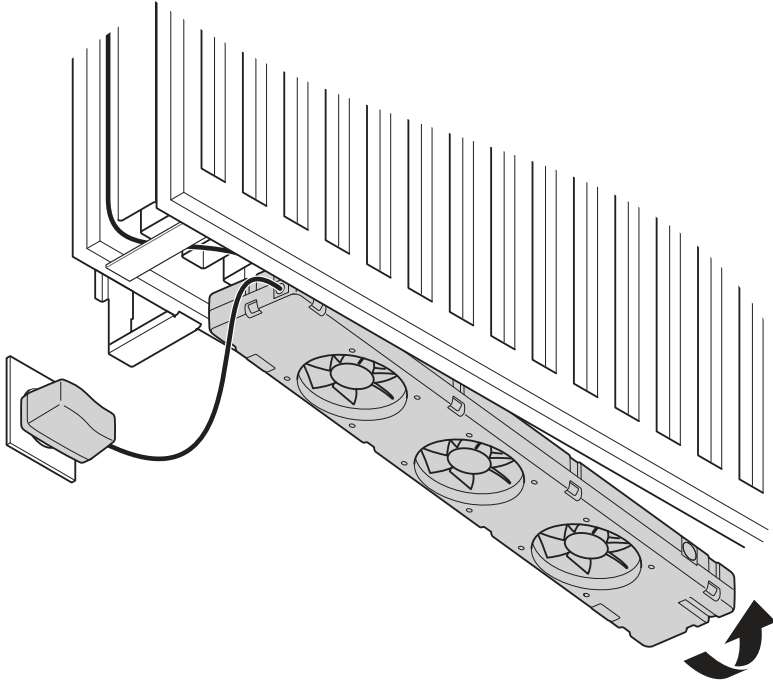

Fig. 2 - Attach the SpeedComfort (B1).
2. Identify a space where the radiator wall brackets and connecting clips are not in the way. Attach the **SpeedComfort** (B1) at the bottom between the radiator plates with the **adjustable magnets** (b13, b14) (see fig. 2). The **SpeedComfort** (B1) can also be attached on top of the radiator and under a cover. **NOTICE** Make sure the **fans** (b7, b8, b9) still face upwards!